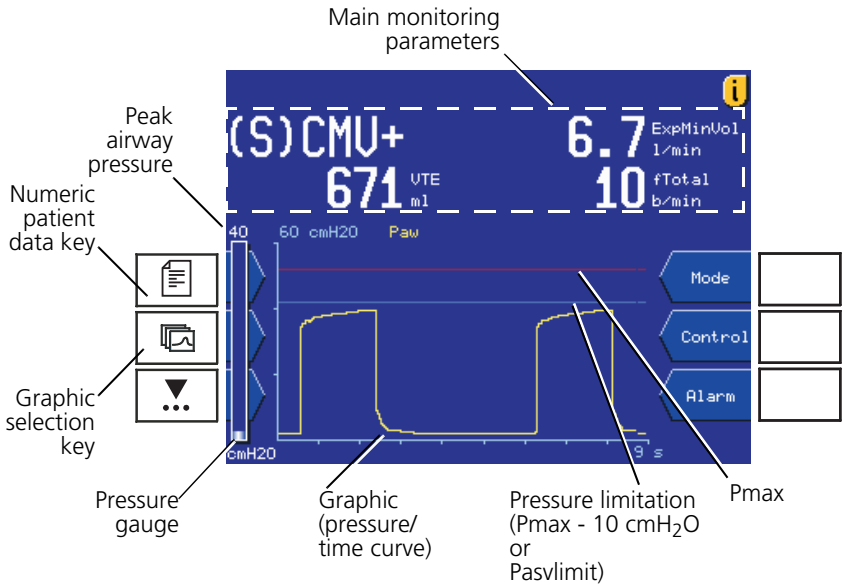

Figure 5-1. Basic screen showing curve
During ventilation, you can view patient data on the RAPHAEL screen; Figure 5-1 shows an example of this basic screen. In addition, you can open the numeric patient data windows to view more data.
The basic screen (Figure 5-1) shows the patient's status, including:
2. Select the Pressure/time, Flow/time, or Volume/time curve type, activate it, and confirm. Figure 5-1 is an example of a pressure/time curve.